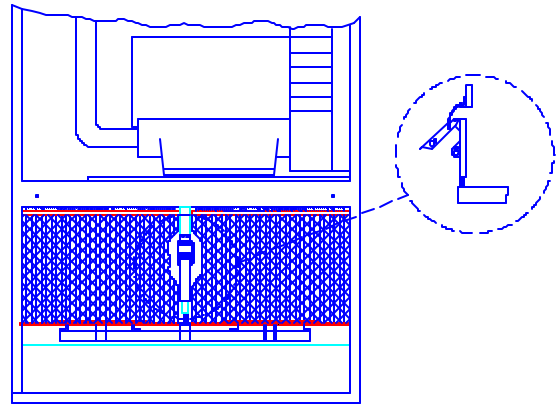

Figure 11.
3. Release filter retaining latch located between cartridges, (see Figure 11.) This will lower the filter holding frame. Unhook latch to let holding frame rest at lowest position.